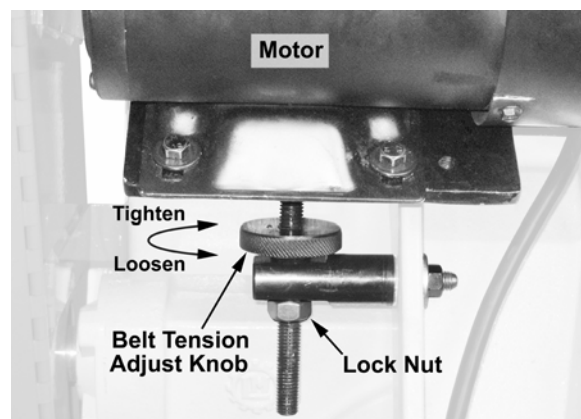

Figure 23
3. Loosen the *belt tension adjust knob* located in the rear under the motor (see Figure 23 for knob direction). Lift the *motor* upward to loosen the belt.
6. Tighten the *V-belt* by turning the *belt tension adjust knob* (see Figure 23). The belt must be secure enough so it does not slip when the machine is running. Do not over tighten. This will cause premature wear on belt and pulley bearings.